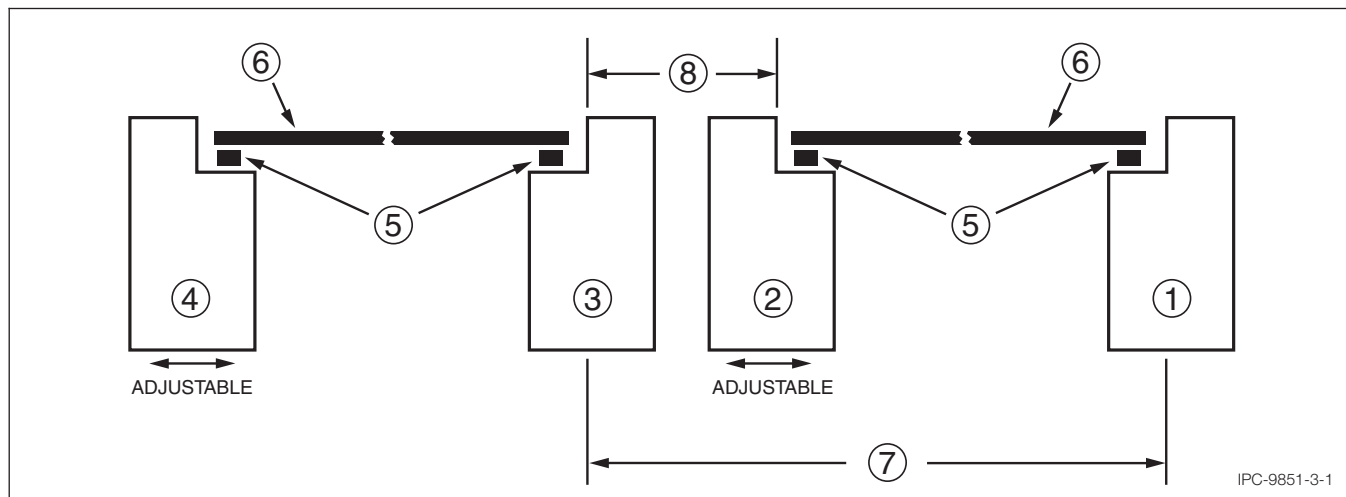

Figure 3-1 Dual Lane Conveyor
Rail 1 **shall** be fixed position, rails 2 and 4 **shall** be adjustable, and rail 3 may be fixed or adjustable. For the purposes of this standard, the rail closest to the front of the equipment is defined as fixed rail as shown in Figure 3-1 (1).
Note 1: Rail spacing is measured from transport edge to transport edge, see Figure 3-1 (7).
Note 2: See Figure 3-1 (8)
3.2 Conveyor Width Each Lane Each conveyor **shall** be able to be independently adjusted for printed circuit boards as small as 50 mm [1.97 in] and at least as wide as 216 mm [8.5 in] wide boards (see Figure 3-1).